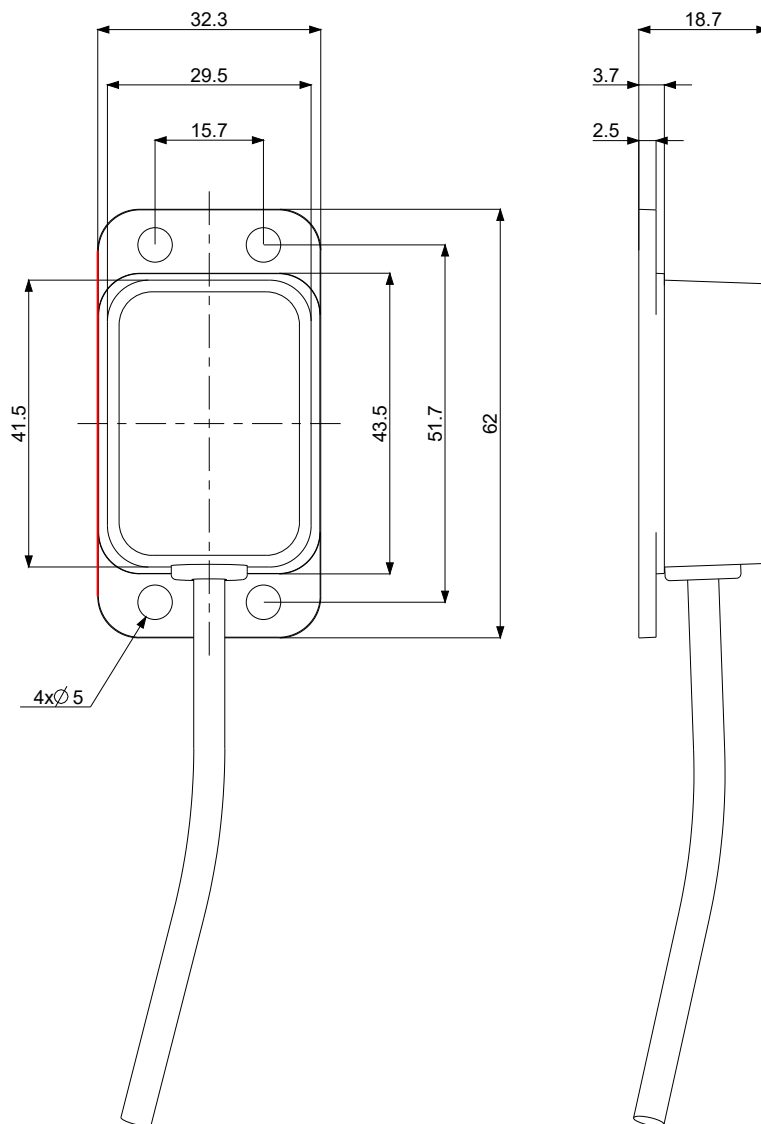
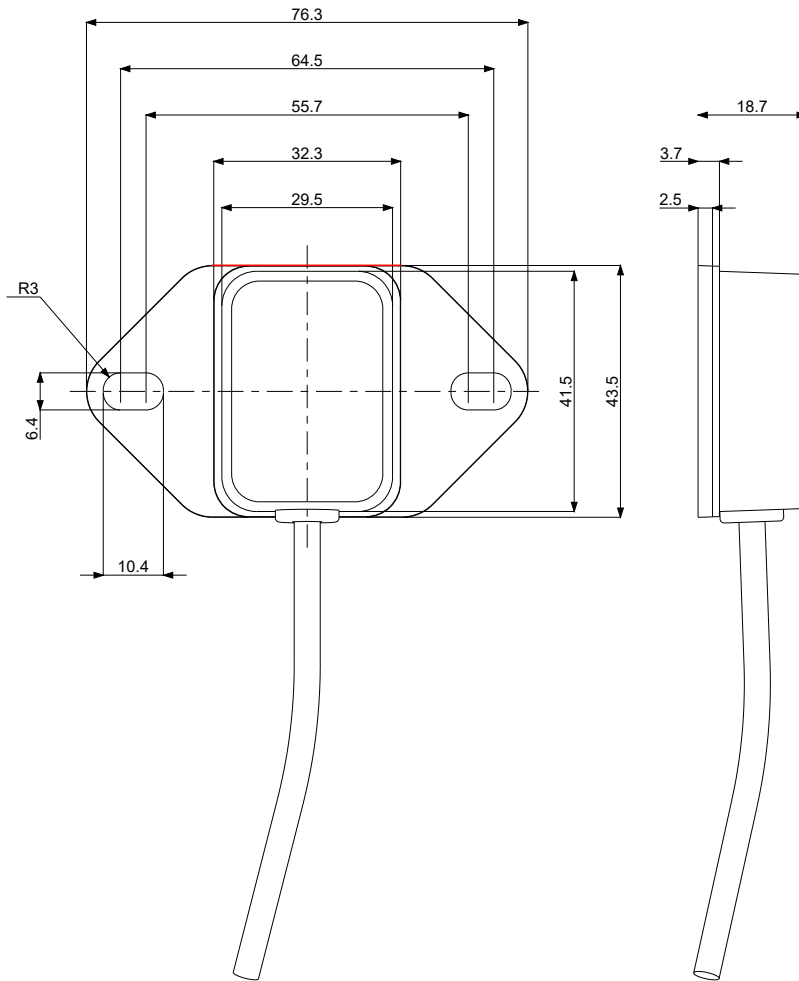

Figure 3: Mounting holes 4-hole variant (dimensions in mm)
Figure 4: Arrangement of the fastening holes and position of the system edge
- Figure 4: Arrangement of the fastening holes and position of the system edge 7
The holes for screwing the sensor (Figure 3 and Figure 4) are located in the base plate of the sensor.